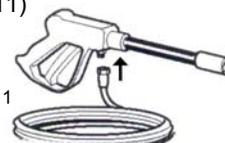

Fig. 11
2. Then attach the other end of the high pressure hose to the high pressure hose connector on the trigger gun. (Fig. 11)